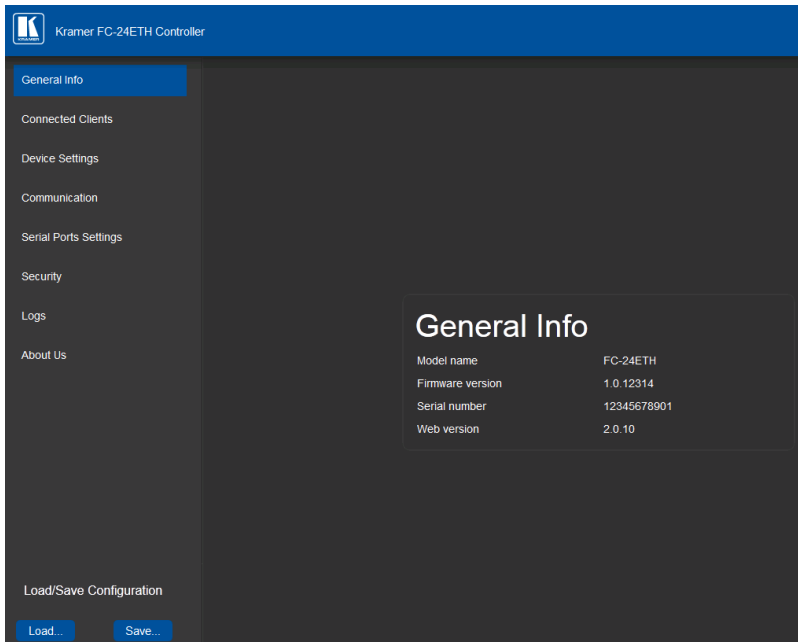

Figure 14: General Info Page
2. Using a Web browser, (see Section 6.1 and Section 7) browse to the General Info home page (see Figure 14).
The Loading page appears followed shortly by the General Info page shown in Figure 14.